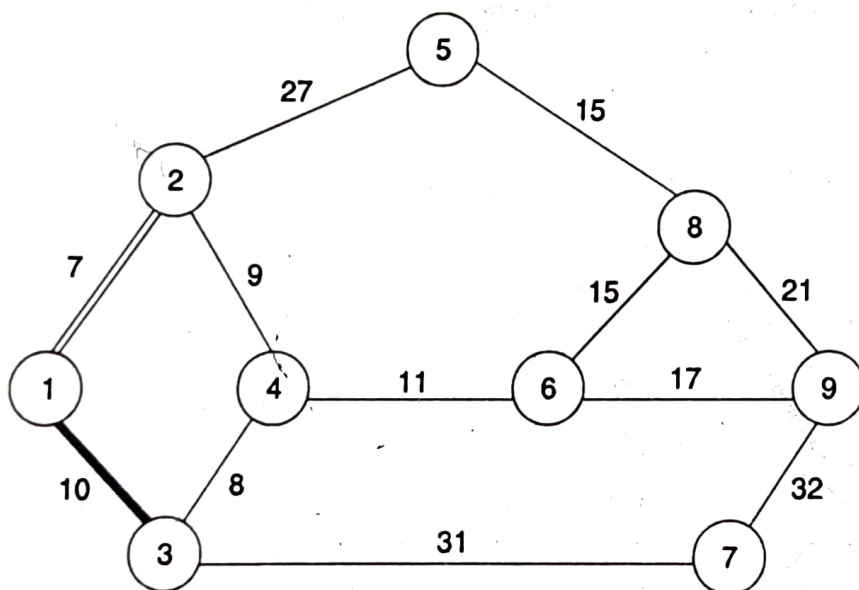

Fig. 5.7 Network showing partial solution.
Step 2: In Fig. 5.6, the smallest distance (X) is 10, and the corresponding node (L) is 3. Since Node 3 is a neighbour of the start node, thicken the arc 1-3 as shown in Fig. 5.7.